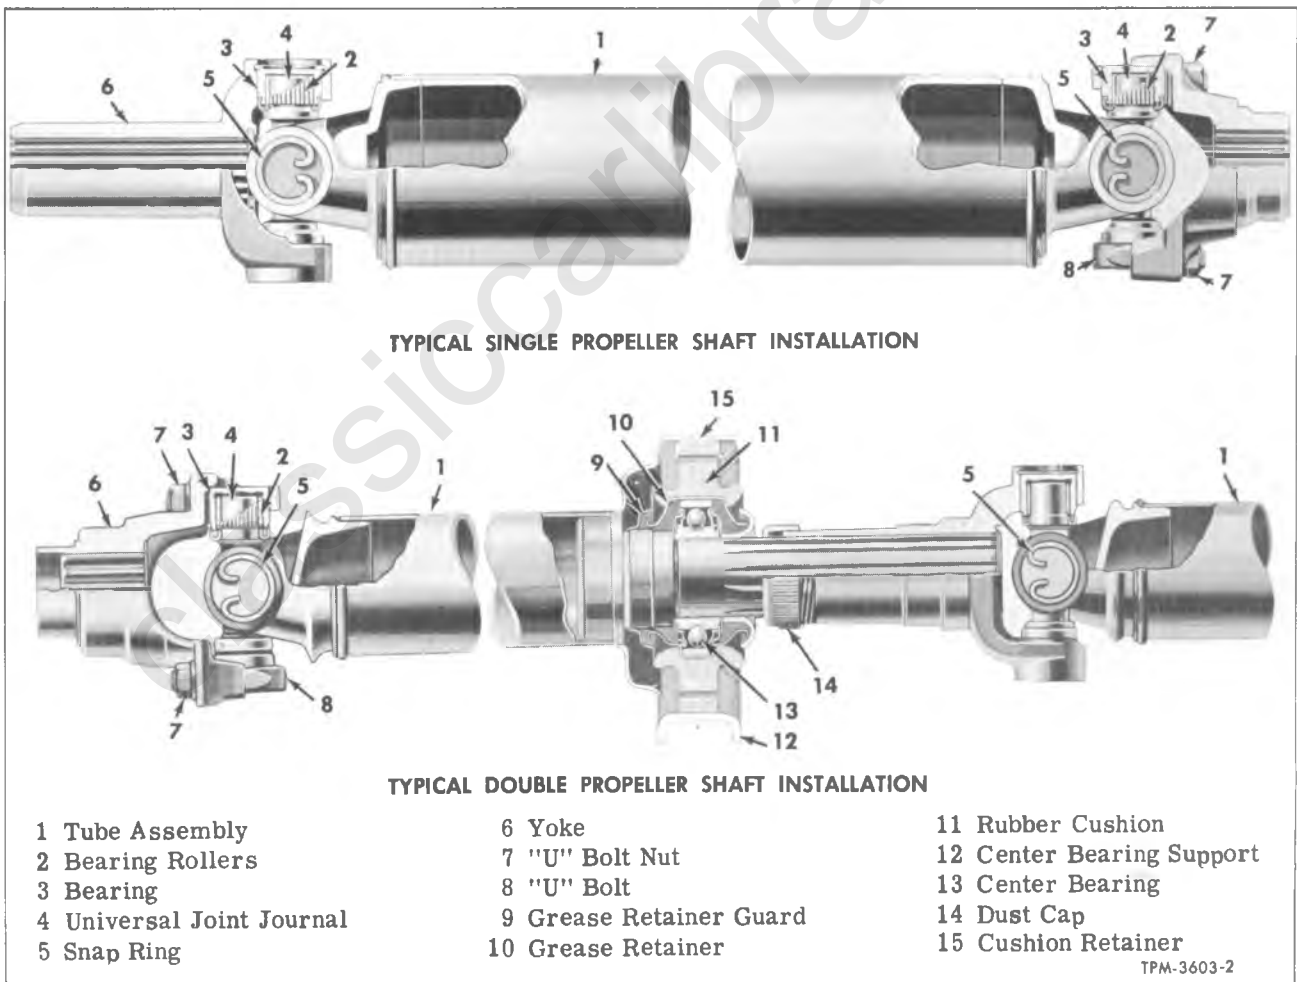

Figure 1—Typical Propeller Shaft and Universal Joints
Power is transmitted from transmission to rear axle through one or more propeller shaft and universal joint assemblies (fig. 1). The number of propeller shafts and universal joint assemblies vary with vehicle wheelbases and combination of transmission and rear axle equipment.
#### PROPELLER SHAFTS (Fig. 1)
#### UNIVERSAL JOINTS (Fig. 1)
1. On universal joints using snap rings to retain bearings on journal cross, remove snap rings (fig. 1).
2. On universal joints using U-bolts to retain bearings on journal cross, remove nuts and washers from U-bolts, then remove U-bolts (fig. 1).